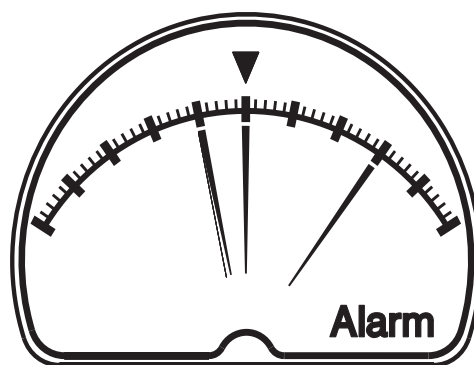

Figure 7–7–3: Overpressure Alarm
**Example: for the ADT681 (pressure range 0–100kPa),if the current pressure reading is 50.00kPa (50%FS) and the higher limit is 80kPa (80%FS)and the lower limit is 40kPa (40%FS), the analogue dial will show as figure 7–7–3.**